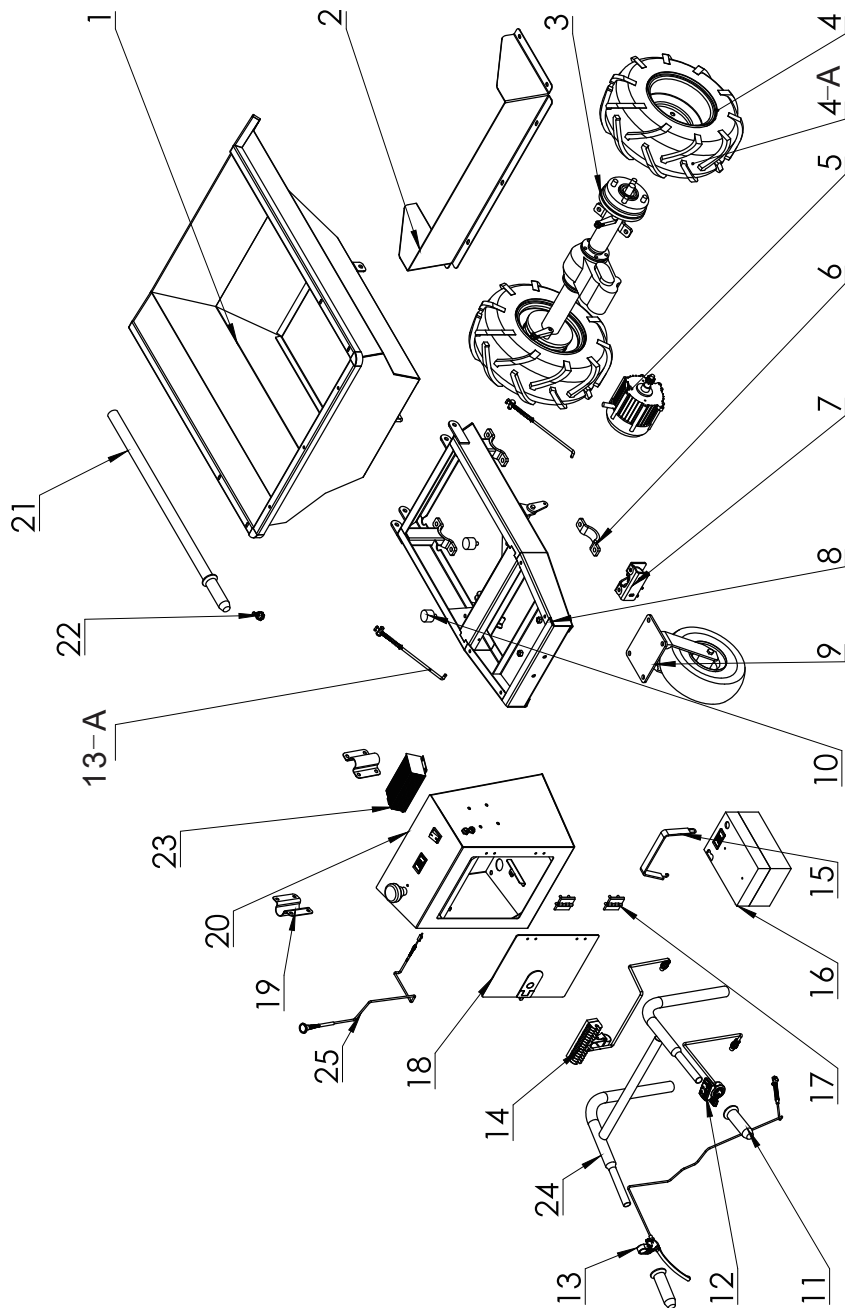

Fig. 22
- The spare part number is listed in the following table 1 - the number following the dash specifies the part in fig. 22; for ordering a part, specify the whole number, i.e. both the part before and after the dash.
Replacement part number see fig. 22	Name of the replacement part
Other spare parts or accessories not shown in fig. 22.